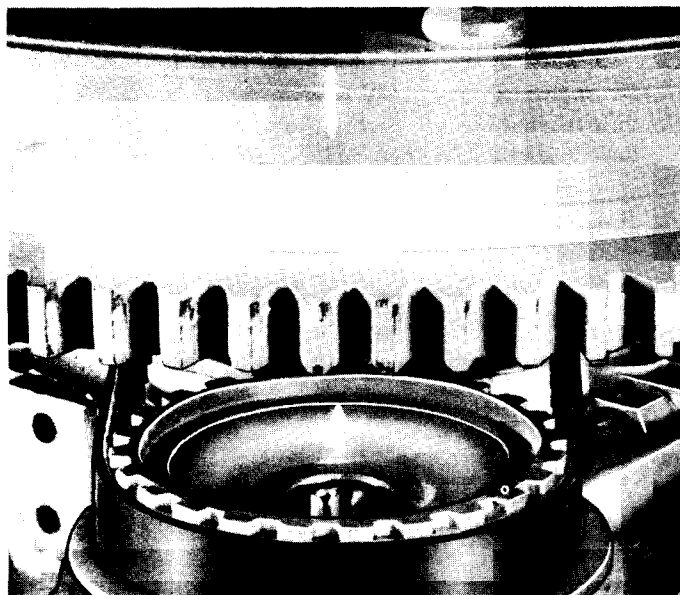

Figure 1. Timing Marks on Flywheel and Pulley
1. Rotate flywheel until timing mark (a straight line stamped on upper surface) is in a straight line with center of crankshaft and magneto pulley center. (Figure 1)